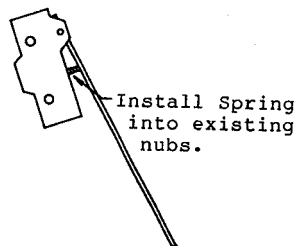

Fig. 2
4. Remove the two screws supporting the switch mounting bracket and pull out the bracket and switch assembly. Using needle-nose pliers, install the supplied springs into each water curtain switch (one in each, front and rear), as shown in Fig. 2.